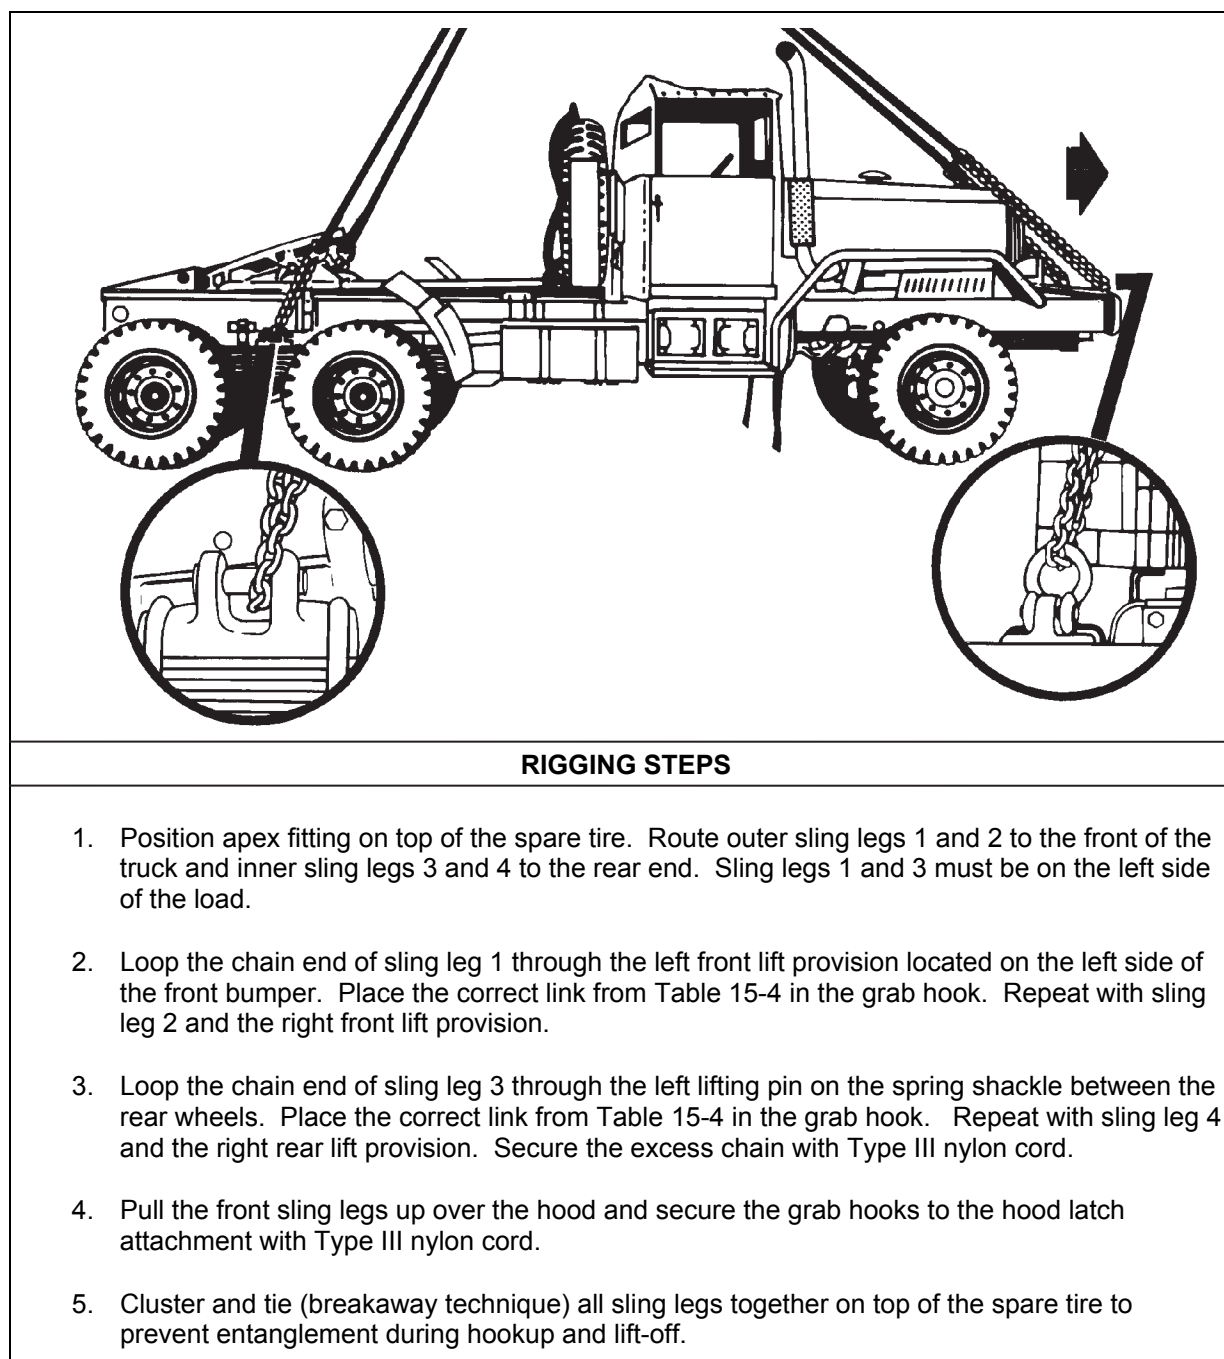

Figure 15-4. M524A2 5-Ton Tractor with Winch
- **Rigging.** Rig the load according to the steps in Figure 15-4.